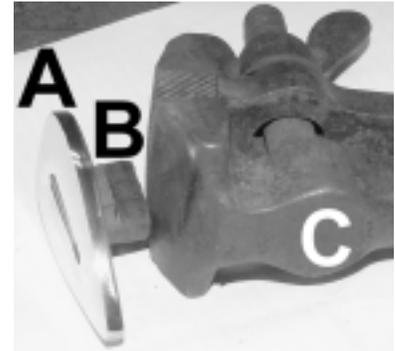

Fig.9: Ways to hold a guard
The next operation is to polish the front surface of the guard (Fig.9). It is a pain to try to hold a guard while grinding and/or polishing that surface. If you use your fingers, expect flat finger tips and blisters. If you use a hand vise (C) or a machinist's screw vises, expect to pick the guard up from the floor from time to time. What I discovered recently (imagine me slapping my forehead in exasperation for being so dumb) is that a hard wood wedge (B) driven into the slot makes all these problems go away. It even prevents the polishing buffs from rounding the edges of the slot. What a great idea! -- one that I should have thought of years ago!